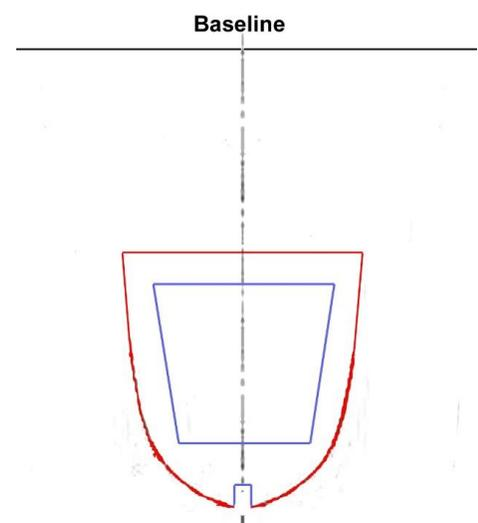
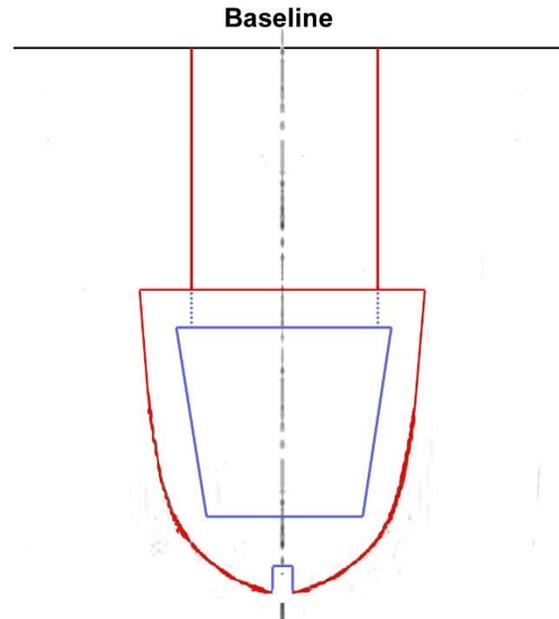
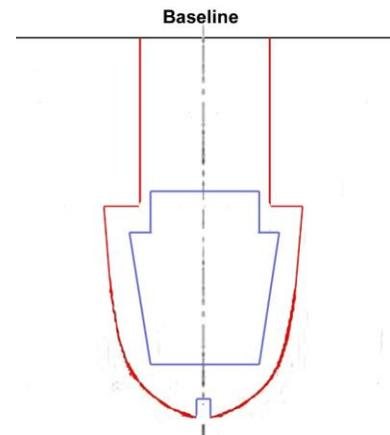

Figure 10. Rib 16 showing in blue the internal cutout and the notch for the keel.
Figure 12. Finished outline of rib 16 template – as prepared for internal hull access - with vertical cuts to remove extension.
Figure 16. Alternative extension cutoff arrangement.
cutting lines we added in step 9. The final outline is shown in Figure 12, with the cutting outline shown in red.
rib 16, or we don't want a cutout. We go back to the outline as we had it in Figure 10, and add the extension that we applied in Figure 12. We have to separate the extension with a horizontal cut.
- II. Instead of the vertical cuts illustrated in step 10 and Figure 12, you can make the cutout larger so that the cuts to remove the extension are horizontal, as shown in Figure 16. It's a matter of personal preference.